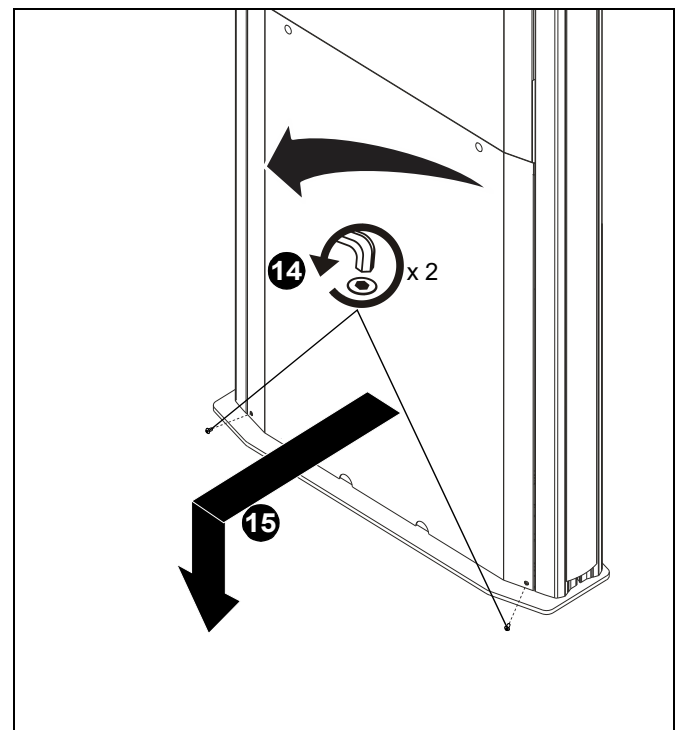

Figure 8
14. Remove bottom two screws from front cover. (See Figure 8)
15. Use finger tabs to pull front cover out and slide down. Cover must be flexed to remove pins from uprights in order to remove. (See Figure 8)